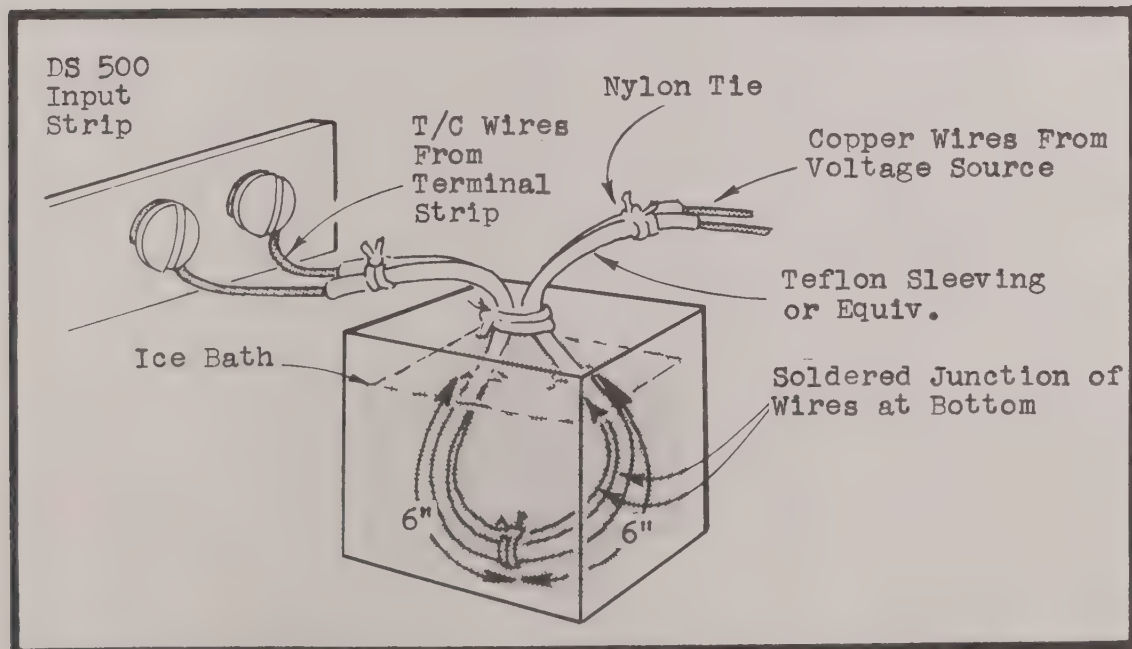

FIG. 4-3 PREPARING WIRES FOR AN ICE BATH
- c. Prepare test wires as shown in Figure 4-3.